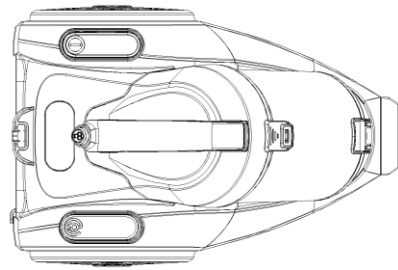

Fig.7
2. As in Fig.7, take the dust cup out of the machine.